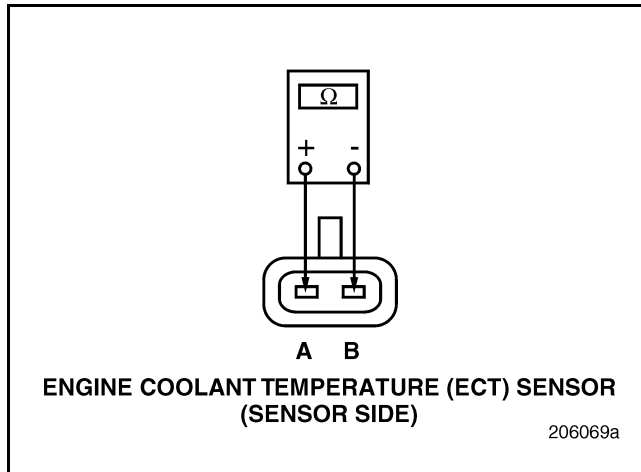

Figure 154
3. Measure the resistance across the pins of the ECT Sensor with the coolant temperature between 32° and 194°F (0° and 90°C) (see Figure 154).